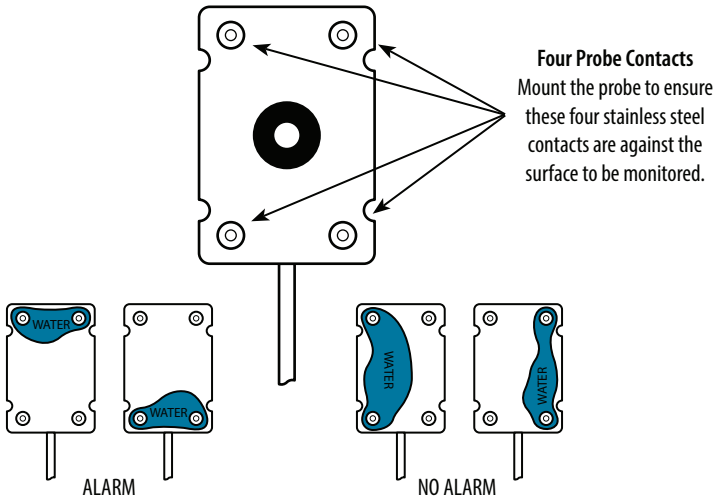

Figure 2
**Note:** When connecting DC power to the WB200 be sure to observe polarity and test to see if the WB200 is operating properly. This may be done by forming a water bridge between two of the metallic contacts located on the probe (See Figure 2) with a moistened finger or cloth. If the WB200 is not operating properly, check the polarity of the power supply connections.
To test the WB200 operational status, form a water bridge between the two metallic contact points (See Figure 2) with a moistened finger or cloth. If working properly, the WB200 will activate the warning device to which it is connected within approximately three seconds. The WB200 will reset automatically when the probe dries and there is no longer a water bridge between the two metallic contact points.